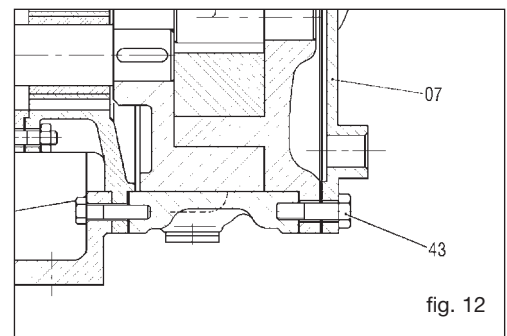

fig. 12
- ❑ If the pump mounts a heating jacket on the cover (07), this will separate from the cover as soon as the screws are removed (43), see figure 12. Take care not to damage the gaskets; if this should happen, replace it.